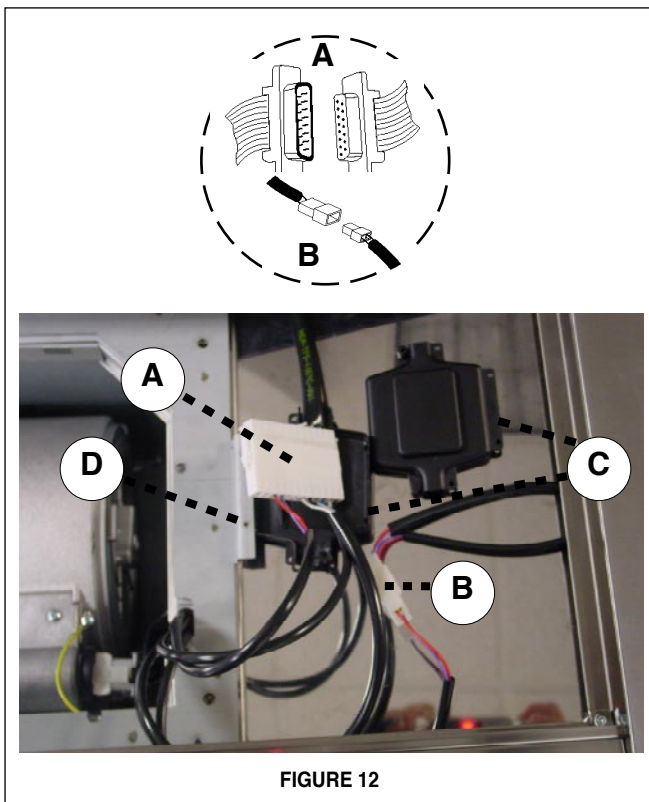

FIGURE 12
5. Connect the CONTROL CABLES together as indicated in A in FIGURE 12. Connect the LIGHT CABLES together as indicated in B in FIGURE 12. Insert the connected CONTROL CABLES (A in FIGURE 12) into the black plastic CONNECTOR BOX (C in FIGURE 12) by connecting the two black plastic pieces using the four screws provided. Using the two longer screws provided, attach the assembled CONNECTOR BOX to the METAL FLANGE (D in FIGURE 12).